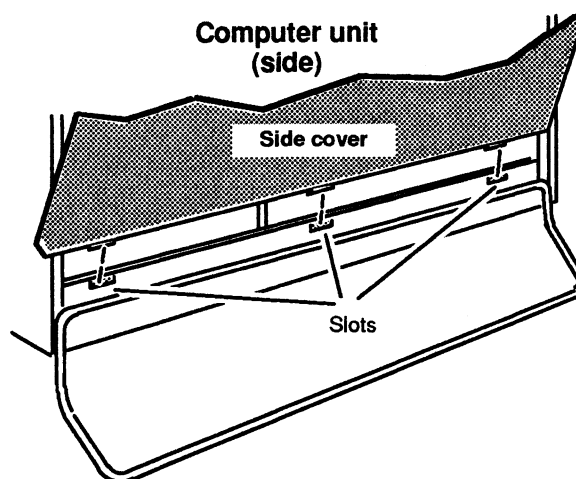

Figure 1-12 Inserting the Cover Tabs into the Computer Unit Slots
2. Insert the three tabs on the cover's bottom edge into the slots at the base of the computer unit as shown in Figure 1-12.